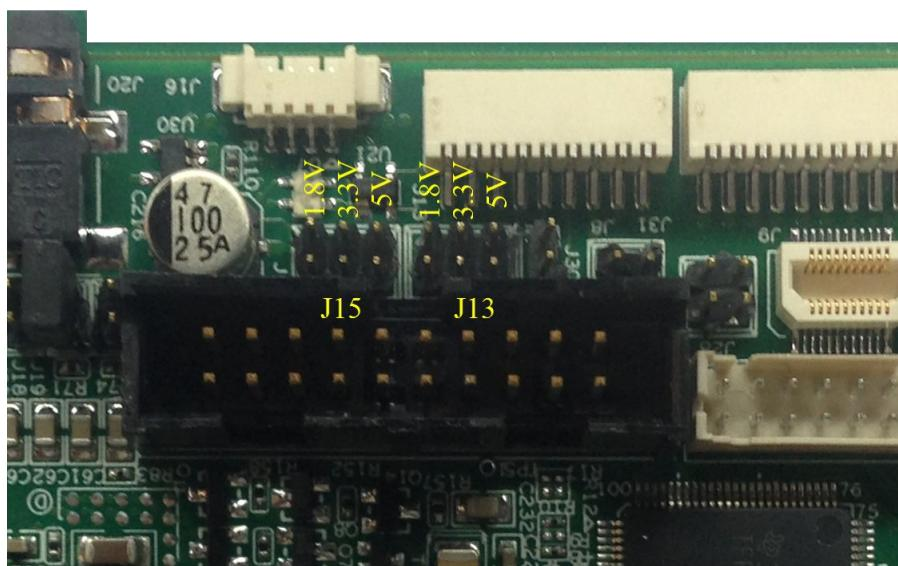

Figure 1-11. PRO4500 J13 and J15 Voltage Jumpers
- J13: DLPC350 TRIG1_OUT voltage selection. See to Figure 1-11.
- J15: DLPC350 TRIG2_OUT voltage selection. See to Figure 1-11.